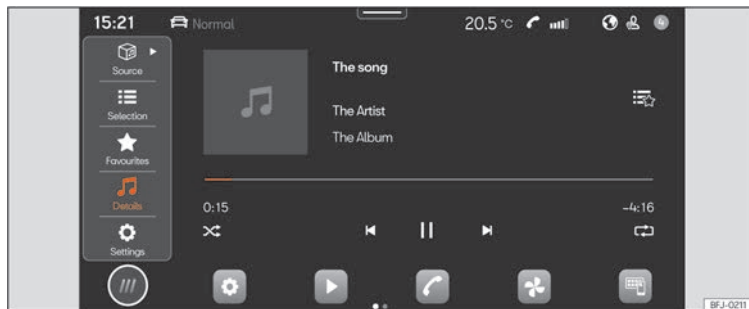

Fig.151 Schematic representation: Multimedia view
- Press **HOME** > ► >>> **Fig. 151**.